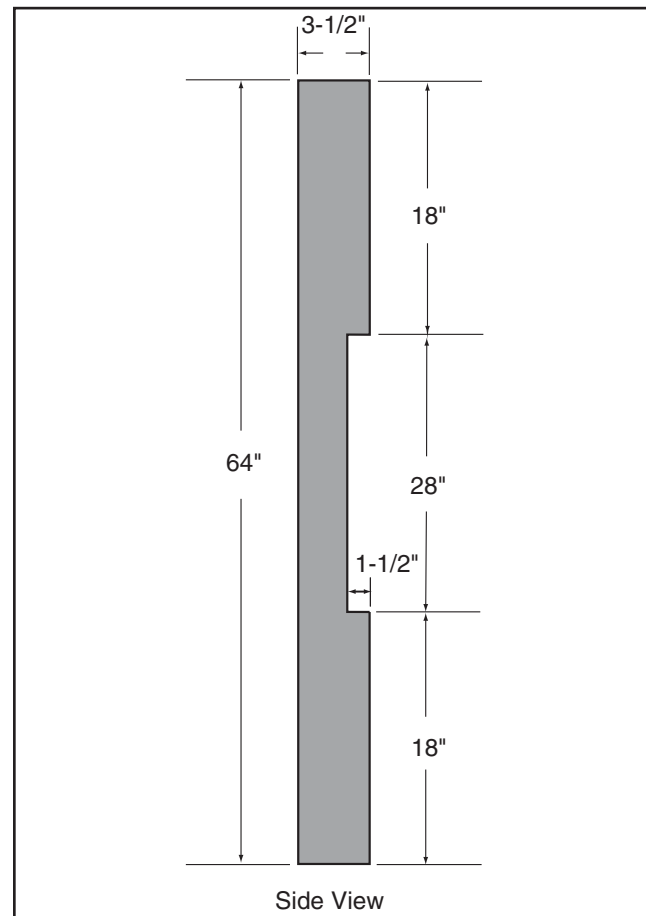

Figure 59. Dimensions of coplanarity gauge.
1. Make the "Coplanarity Gauge" shown in **Figure 59**. **Note:** For best results, straighten the 2x4 with a jointer before cutting.